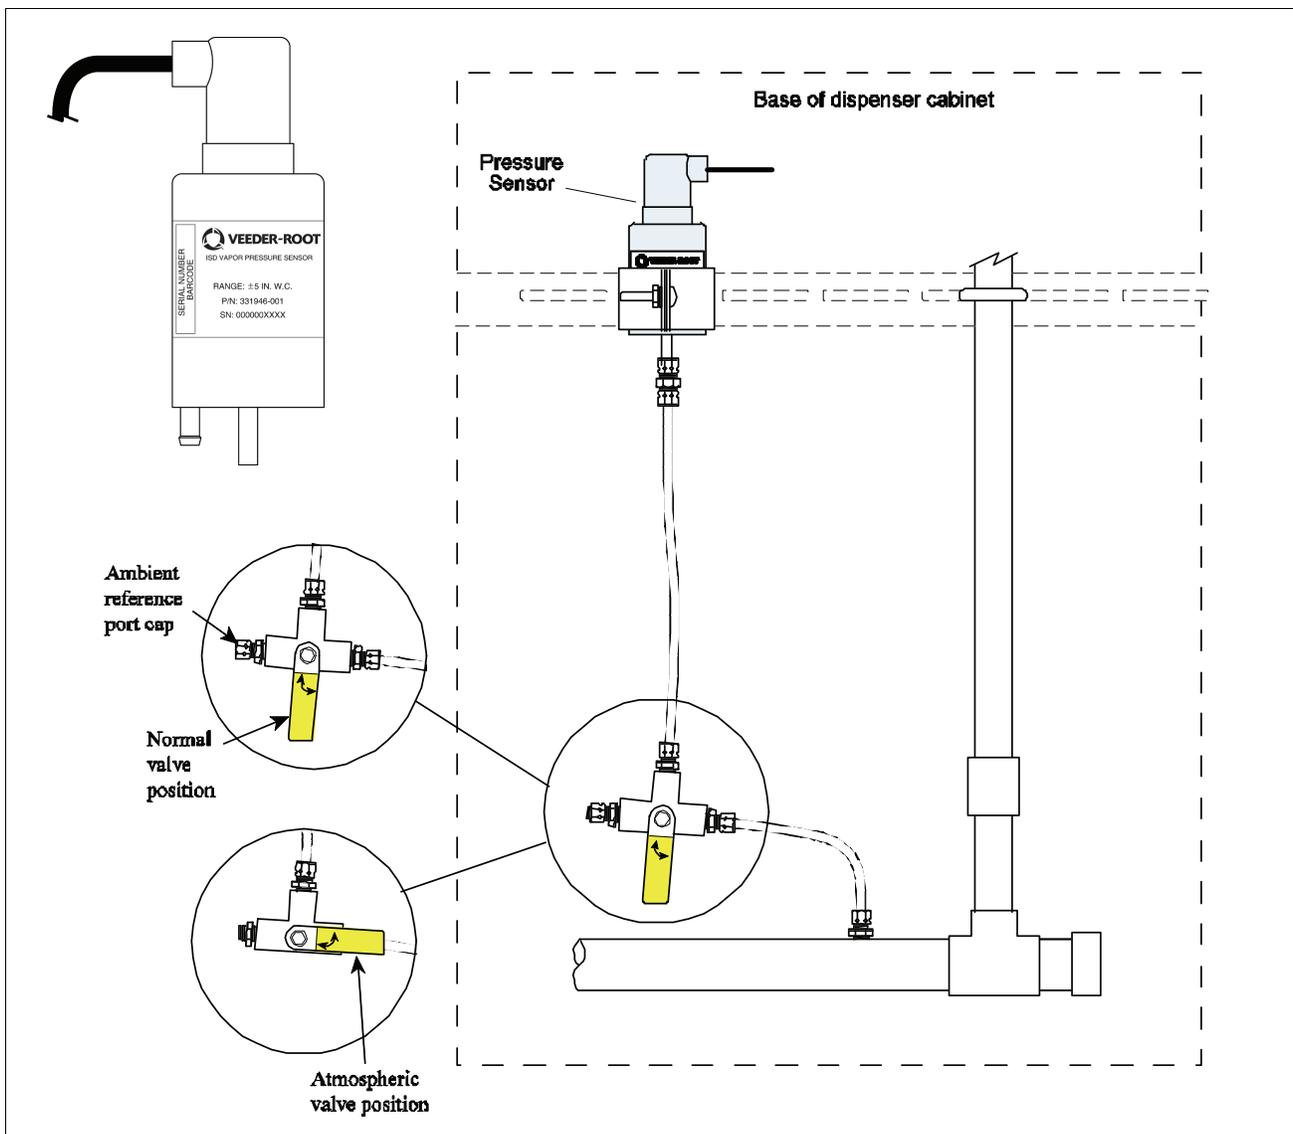

Figure 25. Vapor pressure sensor valve positions
The Vapor Pressure Sensor is subjected to ambient pressure by turning the Vapor Pressure Sensor valve, which is located in the dispenser closest to the tanks, to the Atmospheric Valve Position as shown in Figure 25. This test can be performed while product is being dispensed into motor vehicles.
2. Remove the cap from the ambient reference port of the Vapor Pressure Sensor valve and open the valve to atmosphere by turning it 90 degrees so that the flow arrows point to both the Vapor Pressure Sensor sensing port and the ambient reference port (see Figure 25).
5. Replace the cap on the ambient reference port of the Vapor Pressure Sensor valve. Restore the Vapor Pressure Sensor valve by turning it 90 degrees so that the flow arrows point to both the Vapor Pressure Sensor sensing port and the UST vapor space sensing line (ref. Figure 25).